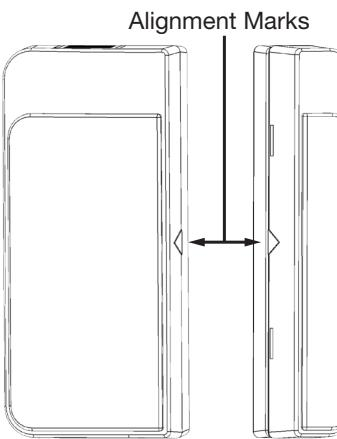

Figure 1
3. Make sure the alignment arrow on the magnet points to the alignment mark on the sensor (see **Figure 1**).